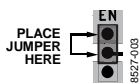

Figure 2. Enabled Jumper Position
- Use a jumper to connect the top two pins of the EN test bus. This connects EN to VIN and enables the converter (see Figure 2).